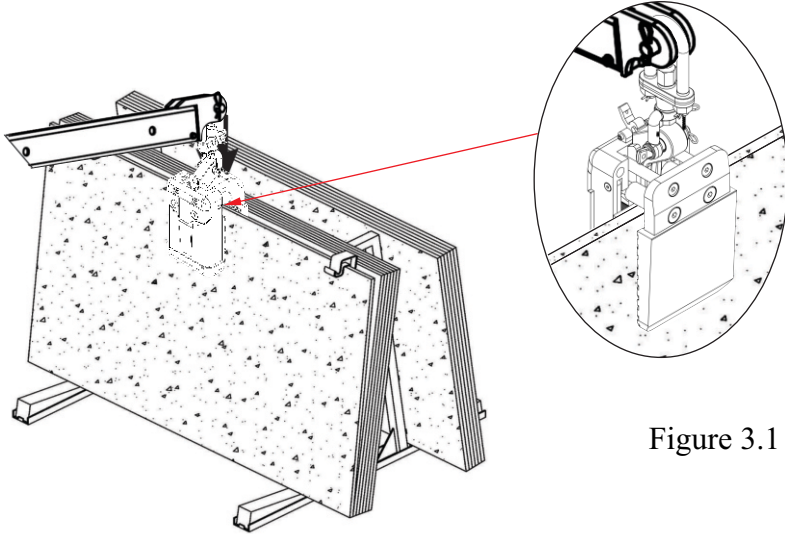

Figure 3.1
- Lowering the lifter to be perpendicular to the slab and place at the center of the slab. (Figure 3.1)